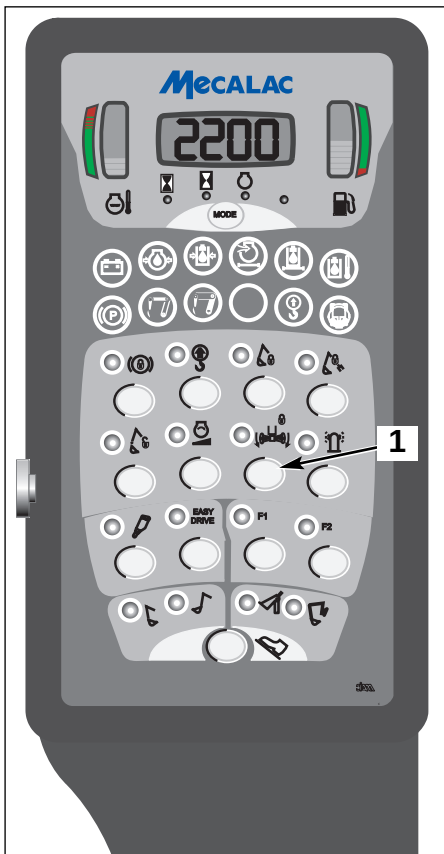

Fig. 5
- Lock the oscillation (1 fig. 5). The machine will not be articulated.